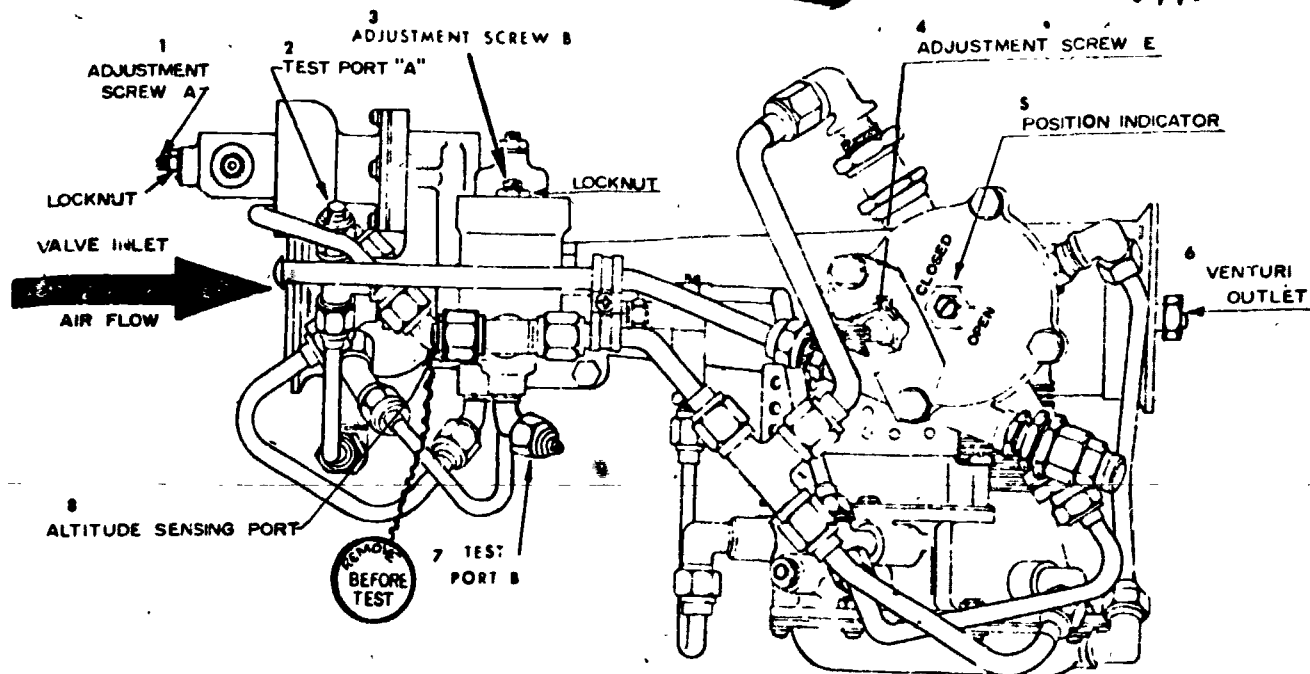

Figure 7A
2. The valve should have opened and closed with a minimum pressure of 10 PSI. If not, adjustment to screw "E" would be made (figure 7A).